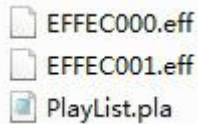

Fig. 6
3. Put the eff and pla format document in “PlayList” folder. Eff and pla format can edit by notepad. For example fig. 6.